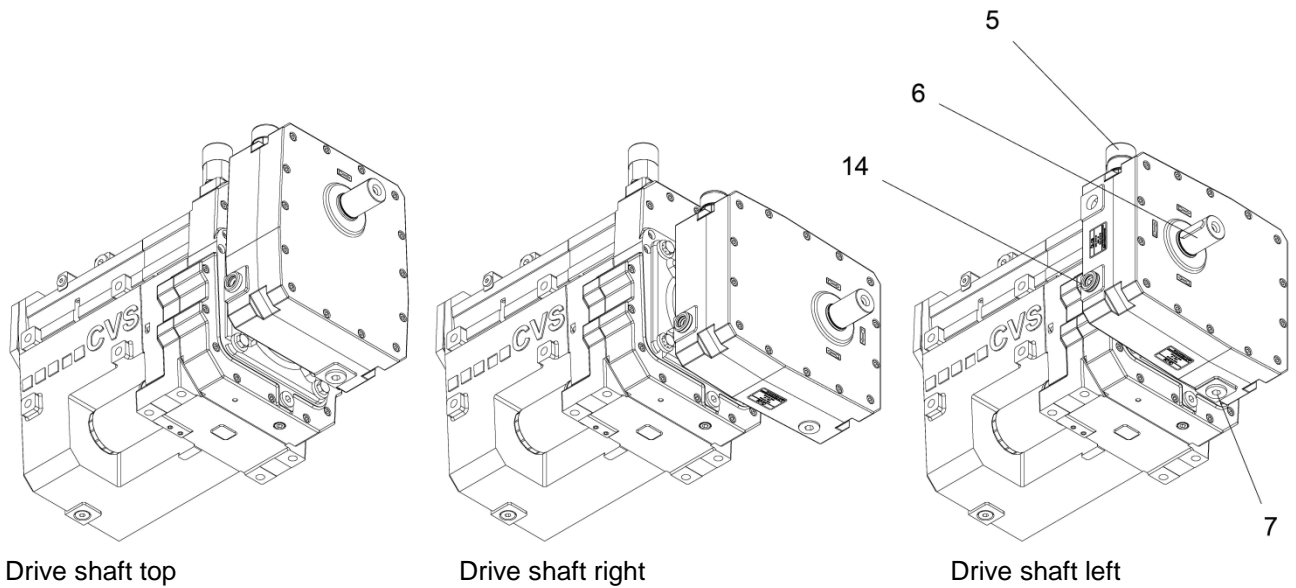

Fig. 8: Attachment variants for adapter gears, for example on type LS
Open oil filler cap (Fig. 8, pos. 5) and oil drain plug (Fig. 8, pos. 7), drain oil. Close oil drain plugs (Fig. 8, pos. 7) and fill with fresh oil to the top edge of the oil sight glass (Fig. 8, pos. 14). Fit oil filler cap (Fig. 8, pos. 5).